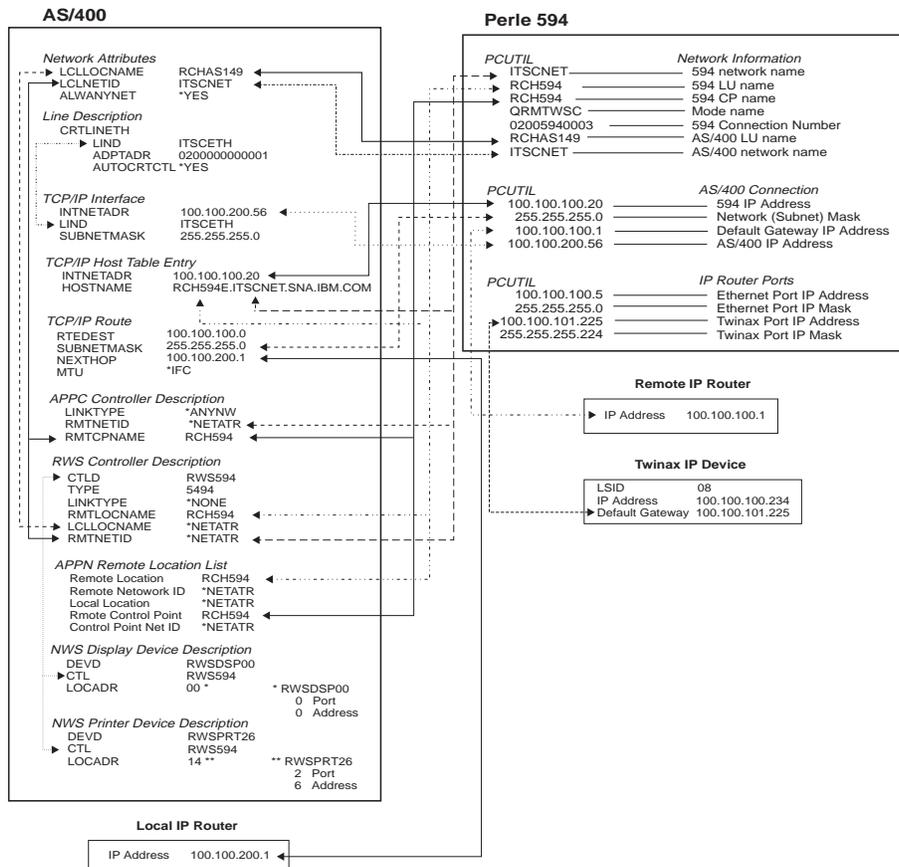

Fig. 24: AS/400 TCP/IP Ethernet and Twinax IP Routing config. cross-reference
- Fig. 24: AS/400 TCP/IP Ethernet and Twinax IP Routing config. cross-reference 13